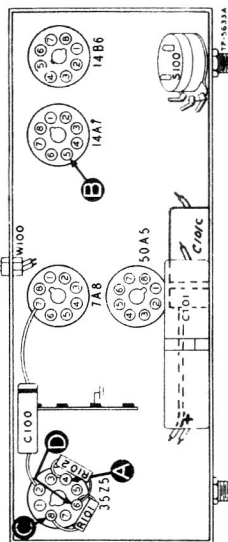

FIGURE 1. BOTTOM VIEW, SHOWING SECTION 1 TEST POINTS
2. Measure the resistance between B+ and B— (test points C and B in figure 1), using the ohmmeter polarity, giving the highest resistance reading; if the reading is lower than 50,000 ohms, check C101A, C101B, and C101C, for leakage or shorts. This resistance value, which is much lower than normal, does not represent a quality check of these condensers; it is the lowest value which will permit the rectifier to operate safely while the voltage tests of Section 1 (power supply) are performed.